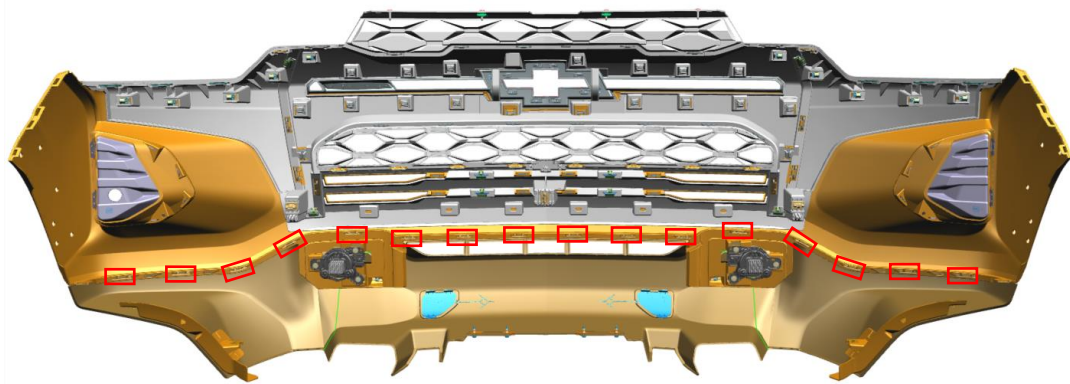

Figure 8 - Backside of Front Fascia
- b. Disengage 16 clips along upper and lower fascia – Fig. 8